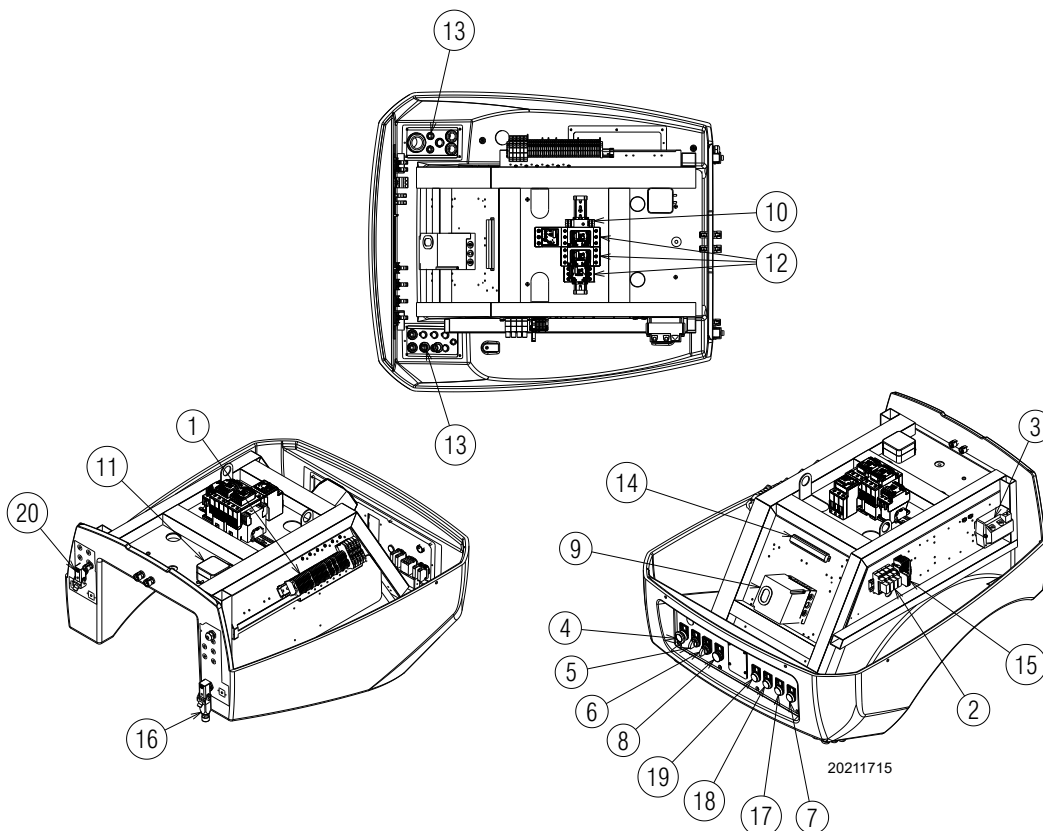

Fig. 5
- **Flame control lockout:** if the pushbutton (red led) of the flame control 9)(Fig. 5) and the pushbutton with light 8) light up, this indicates that the burner is in lockout. Release by pressing the pushbutton 8).